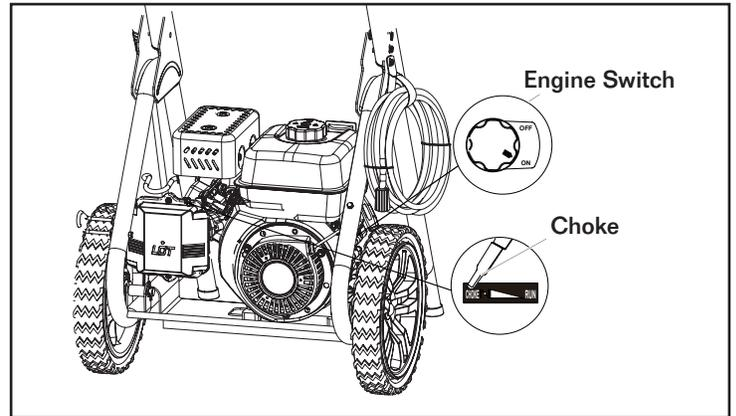

Fig. 8
**STARTING PRESSURE WASHER (SEE FIG 8 & 9)**